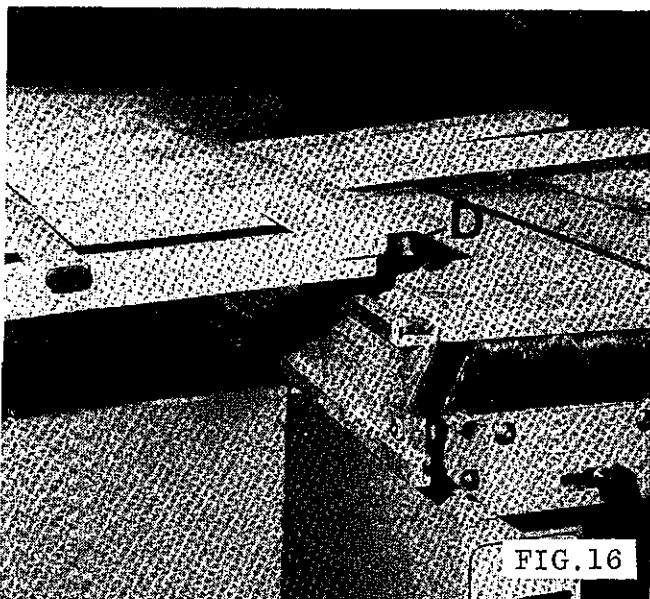

FIG. 16
- 3 Position outrigger table over outer support and locate spiggots "D" into shoes in sliding table slot FIG.16.